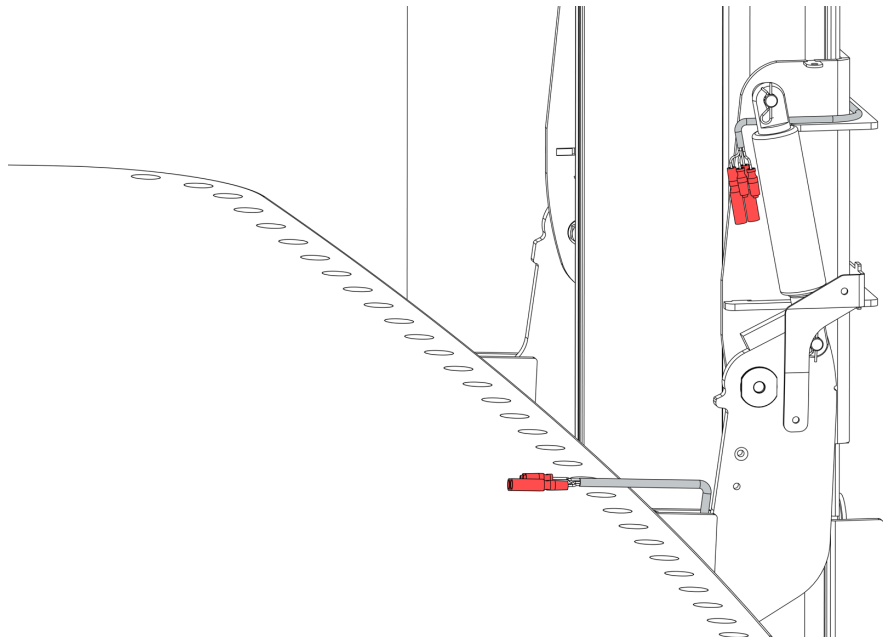

Fig 12.9b
- Deploy the stretcher and locate the cables coming from SBU and the stretcher, shown in red in Fig 12.9b.